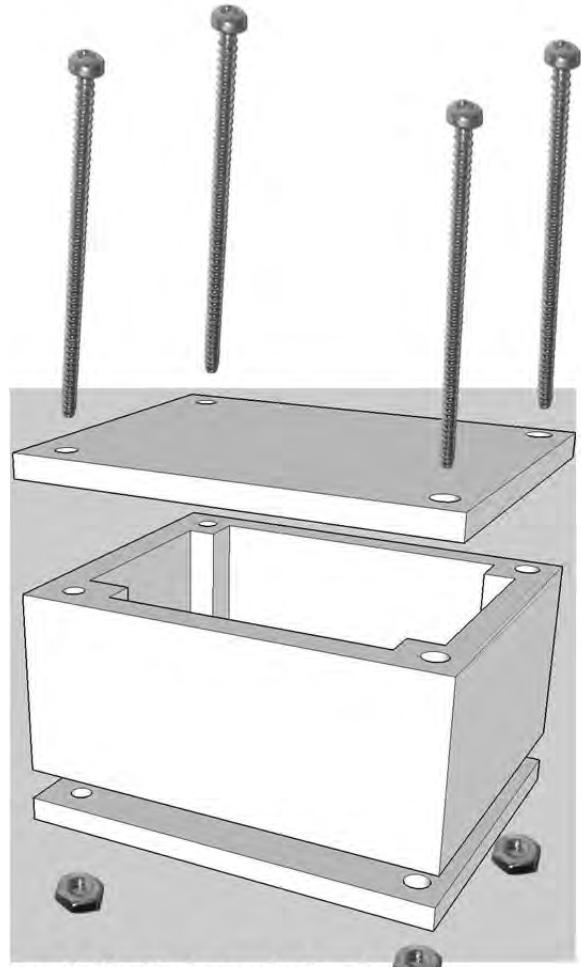

Figure 2: Plastic electronics housing
- 17) (2 marks) A plastics electronics housing (see Figure 2) consists of frame and two caps that are put together with 4 nuts and bolts as depicted in the drawing below. List two methods you could use to improve design for manufacturing and assembly.